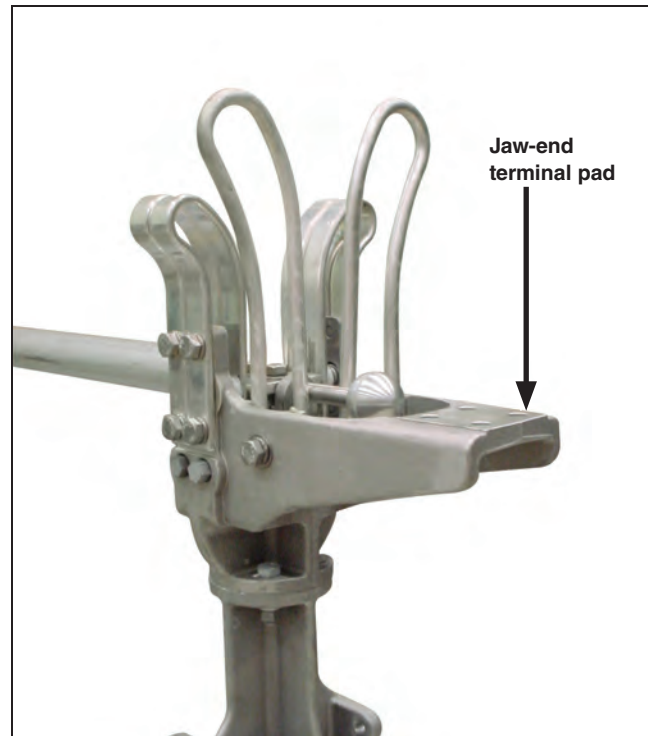

Figure 71. Prepare the jaw-end terminal pad.
- (b) Immediately apply a liberal coating of Penetrox A or other suitable aluminum connector compound to the clean surface. See Figure 71.